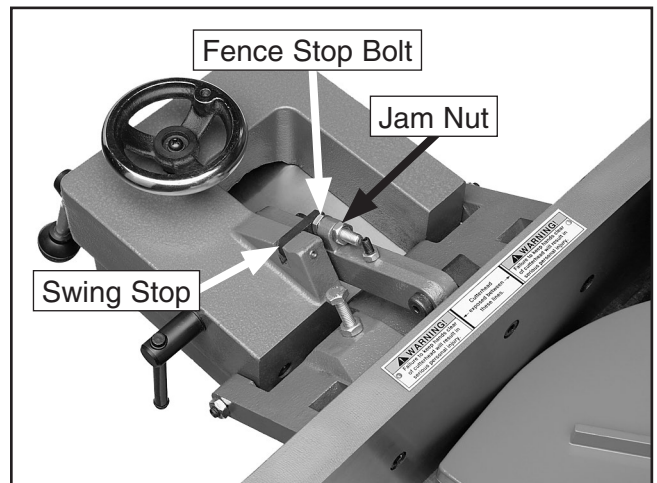

Figure 61. 90° swing stop engaged.
- Flip the 90° swing stop into the position shown in **Figure 61**.
- Loosen the jam nut on the 90° fence stop bolt (**Figure 61**).